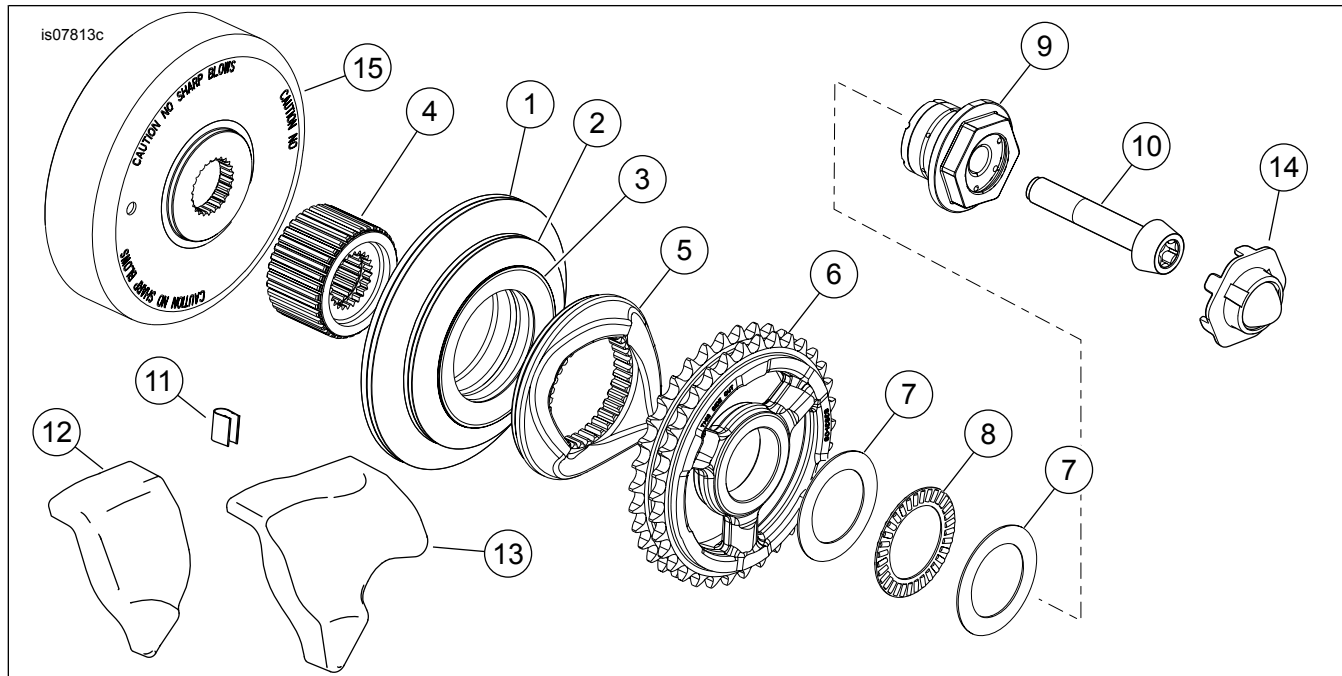

Figure 7. Service Parts: Screamin' Eagle Big Twin Compensator Kit
See Figure 7 and Table 1.
8. **2006-2011 Dyna, 2007-2011 Softail (except 2008-2009 FXCW, 2008-2011 FXCWC, 2009 FXSTSSE3, 2010 FXSTSE and 2011 FXSTSE2) and 2007-2010 Touring models:** See Figure 7. Install the **new** alternator rotor (A) to the engine compensating sprocket shaft per service manual instructions.
9. See Figure 7. Apply a thin layer of primary chaincase oil to the sliding cam (5) splines and the outer splines of shaft extension (4). Install shaft extension with the flat side against alternator rotor.
16. See Figure 7. Tighten compensating sprocket screw (10) to 135.6 N·m (100 ft-lbs).